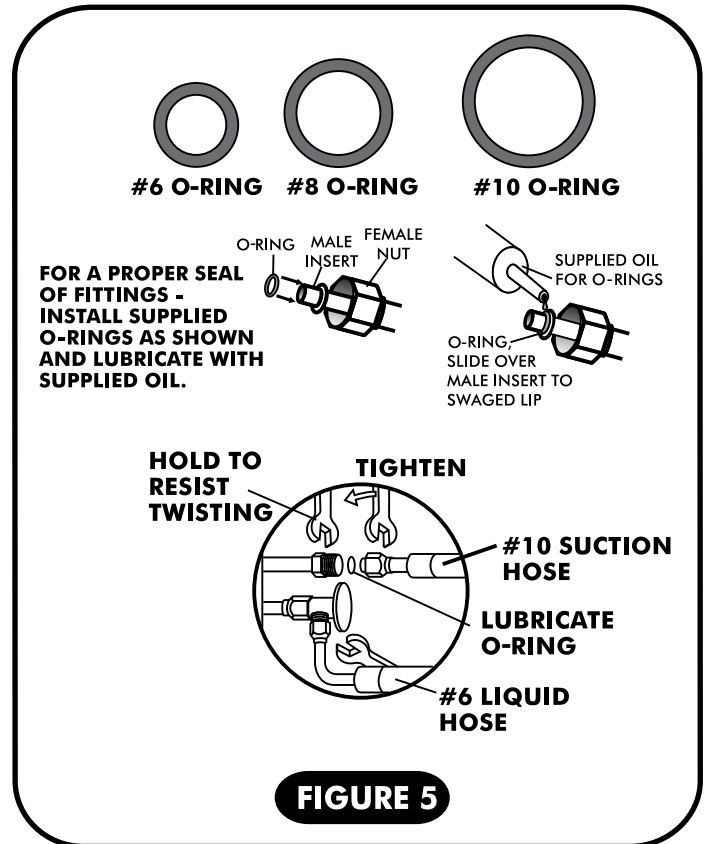

FIGURE 5
11. REMOVE THE #6, #8 & #10 HOSES. FOLLOW THE CRIMPING INSTRUCTIONS SUPPLIED WITH YOUR HOSE KIT AND CRIMP ALL HOSE CONNECTIONS. RE-INSTALL ALL HOSES USING O-RINGS FOR THE FINAL CONNECTION. (BE SURE TO LUBRICATE O-RINGS AND TIGHTEN PROPERLY. SEE FIGURE 5, PAGE 10). RE-INSTALL ALL THE A/C HOSES. WRAP THE METAL PORTIONS OF THE #10 FITTING WITH SUPPLIED PRESS TAPE.